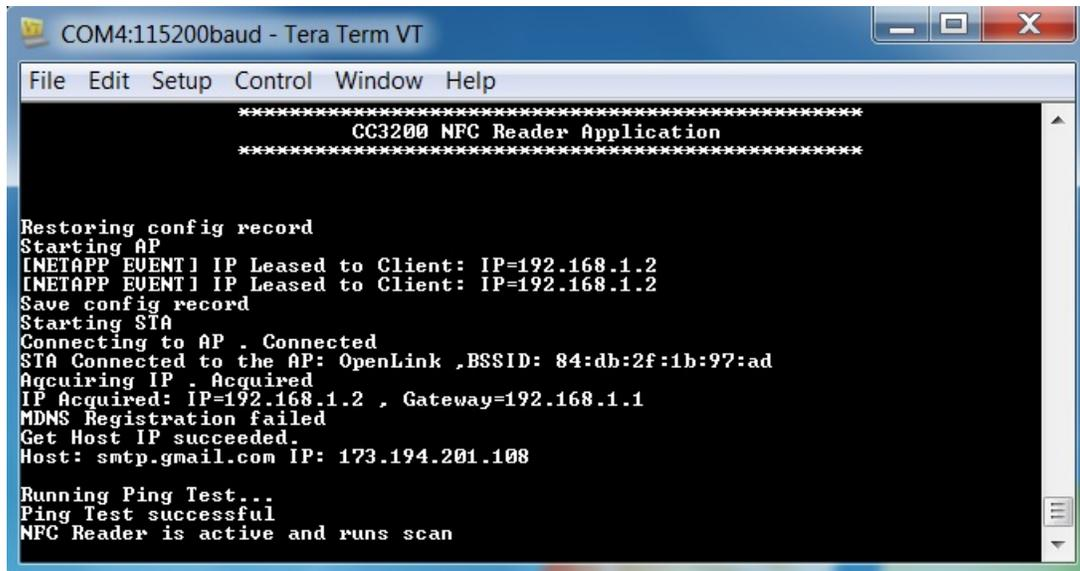

Figure 10. Tera Term Terminal Connected and the NFC Reader is Active
1. Open and view Tera Term to verify the connection and that the NFC reader is active. (See Figure 10.)